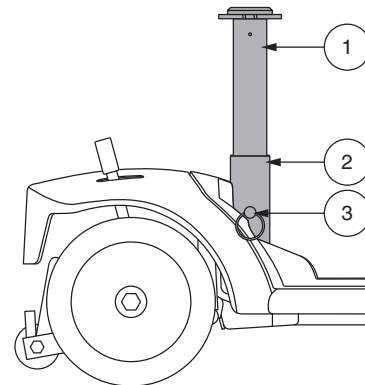

Figure 29. Seat Height Adjustment
The seat can be repositioned to different heights. See figure 29.
2. Remove the upper seat post from the Travel Scooter by removing the detent pin from the lower portion of the seat post, then lifting the post straight up and off the Travel Scooter. See figure 29.